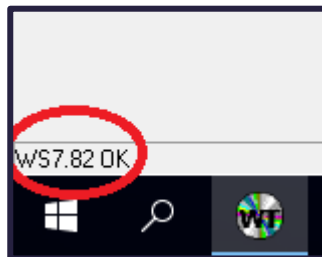

Figure. 2
**Note:** Wait until the status bar shows "WS7.82 OK". (Figure. 2)